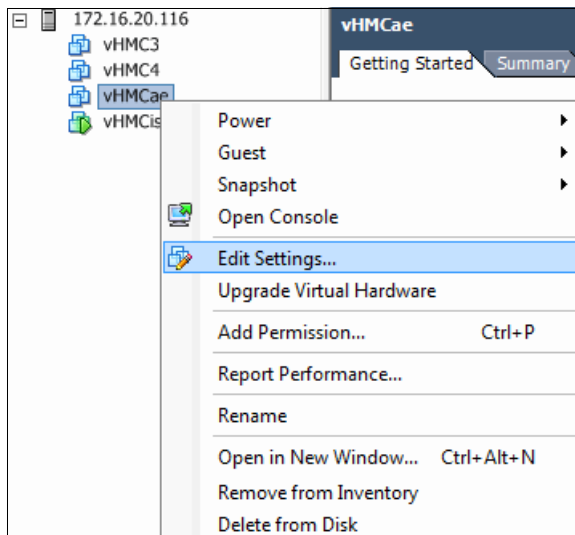

Figure 3-62 Edit Settings
15. Right-click the fresh VM and then select **Edit Settings** (Figure 3-62).